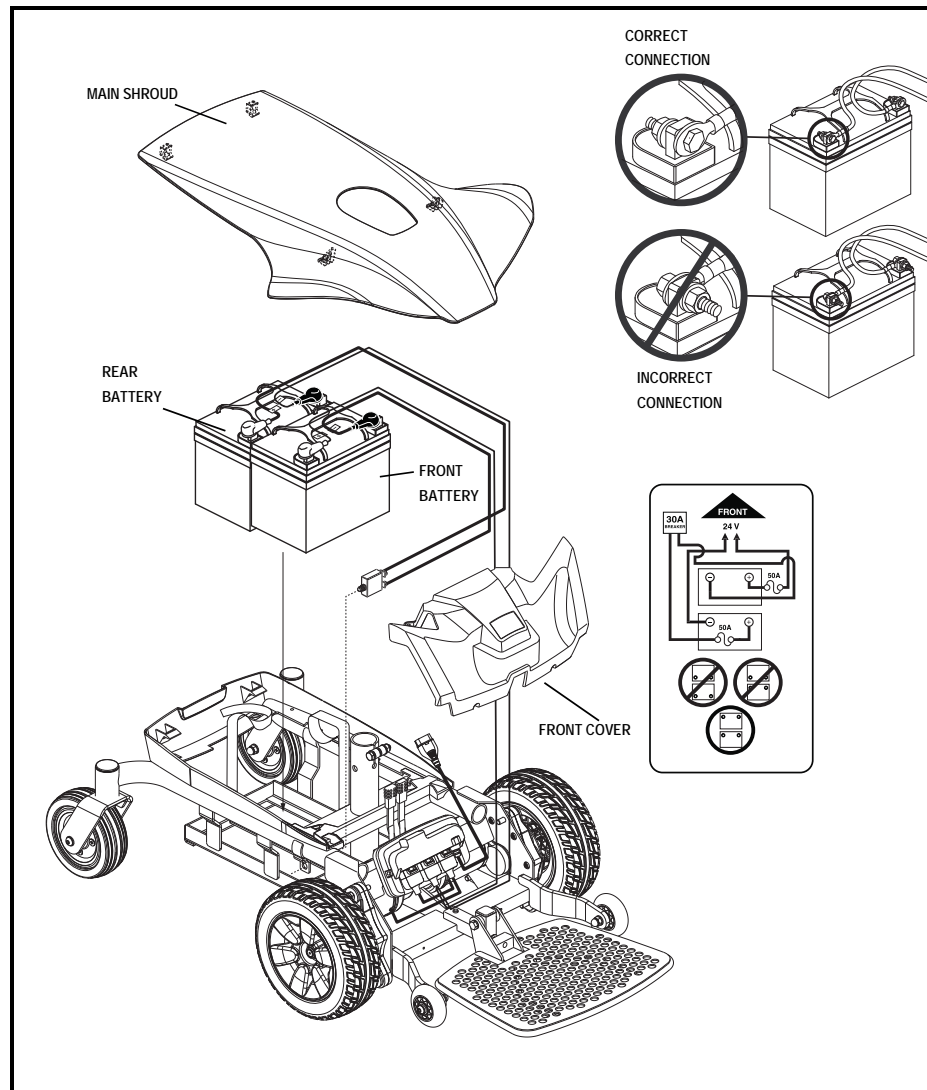

Figure 22. Battery Installation (Seat Removed for Clarity)
4. Remove the main shroud by lifting the rear of the main shroud until it disconnects from the body shroud. Once disconnected from the body shroud, slide the main shroud forward until the tabs are free from the body shroud. Lift the shroud up and over the seat post. **See figure 22.**
5. Unfasten the battery strap. **See figure 22.**
6. Disconnect the battery cables from the battery terminals of each battery. **See figure 22.**
8. Install new batteries into the battery tray. Make sure the terminals of each battery are facing the front of the power chair. **See figure 22.**
9. Connect the front battery cable to the front battery terminals according to the battery wiring diagram. Make sure that the battery terminal hardware is facing the correct direction. **See figure 22.**
10. Connect the rear battery cable to the rear battery terminals according to the battery wiring diagram. Make sure that the battery terminal hardware is facing the correct direction. **See figure 22.**